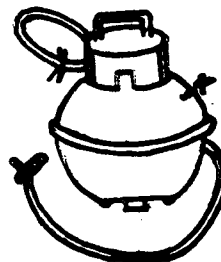

FIG. 3
11. **CHECK BEARING CLEARANCE**—Worn main and rod bearings flood cylinders, making it difficult if not impossible for any piston ring to control oil consumption. Check them for proper clearance, preferably under pressure with a reliable oil leak detector, (Fig. 3).